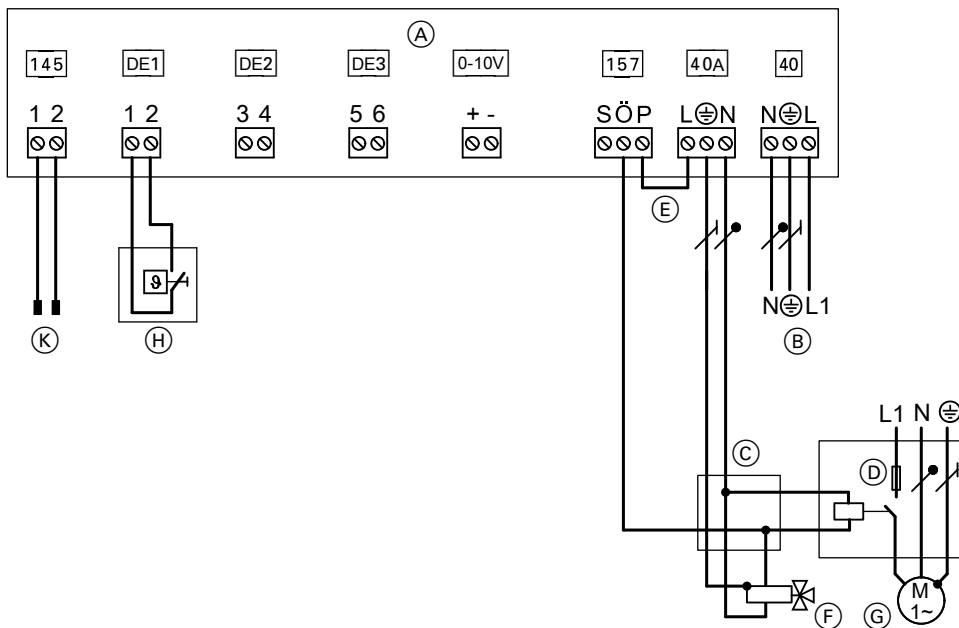

Fig. 21
- Make connections to EA1 extension **only** in accordance with Fig. 21.